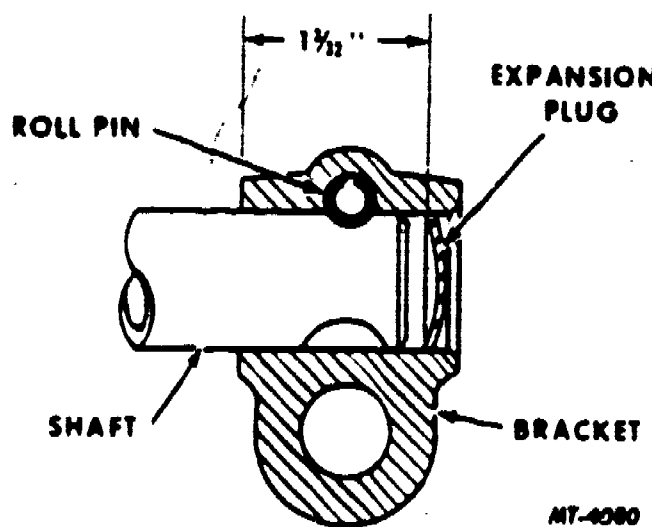

Fig. 77 - Installation of Rocker Arm Shaft to End Support Bracket.
8. If necessary to replace expansion plugs in end mounting brackets, install plug to dimension shown in Fig. 77.
9. Assemble rocker arm shafts to end mounting brackets. Align small notch near end of shaft with roll pin hole in bracket. See Fig. 77. Install roll pin with slot away from rocker arm shaft.